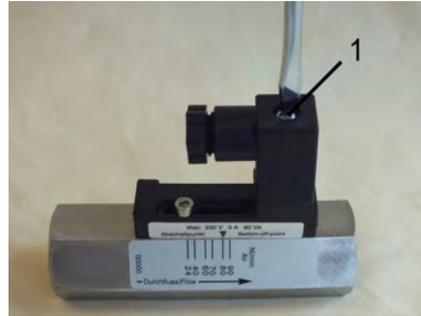

Fig. 43: Loosen female socket
1. → Loosen the fixing screw of the female socket ( Fig. 43/1) with a flat-bladed screwdriver.